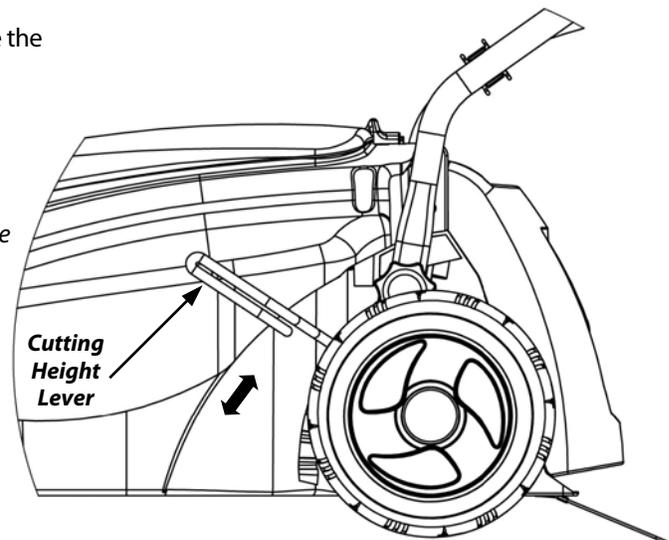

Figure 17
Using the Cutting Height Lever (**Figure 17**), adjust the Cutting Height so that you cut off only one (1) to two (2) inches of grass at a time.
1. Make sure all four (4) Wheels are level.